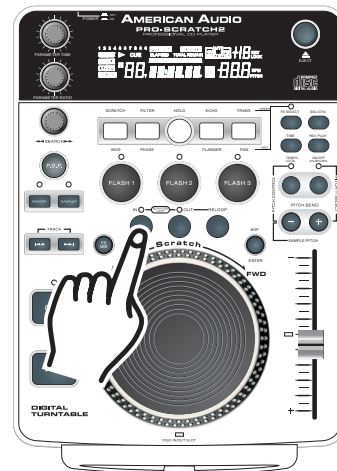

Figure 32
- 2) Press the *IN BUTTON* (12) (Figure 32) at the point you want your BOP to take place.